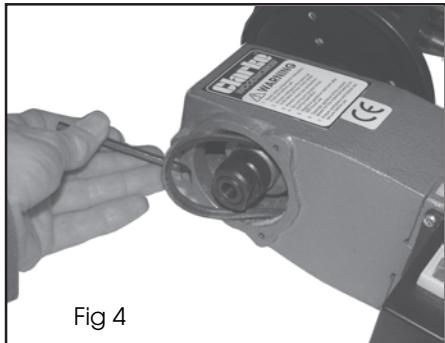

Fig 4
1. Undo the three screws (28) and remove the end cover (27).
- Using the allen key supplied, loosen the bolts (39) to enable the motor to move and the drive belt to go slack.
- Dismount the drive belt from the motor pulley (34) and then lift it off the drive pulley (31) towards you. Use the allen key to help you as shown in Fig 4. The belt can now be removed from the headstock frame.
- Replacement is a reversal of the removal procedure. Tension the belt by hinging the motor downwards prior to tightening the bolts (39).